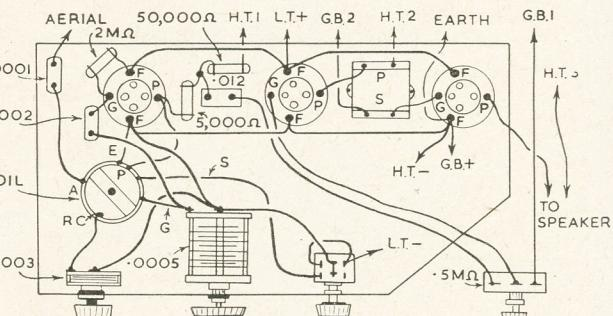
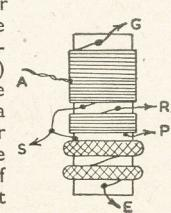

Fig. 2—A complete wiring plan
Fig. 3—The tuning coil windings
For the speaker, a 4½ in. or 5 in. model will be suitable, and a corner is cut off the receiver base-board (Fig. 2) to leave space for this. If a larger speaker is used, the dimensions of the cabinet will require modification,
A complete wiring plan is given in Fig. 2. All the parts should be fixed securely and all connections should be well made with insulated wire. The constructor who has not previously made a receiver and wishes for proper reception from the moment of switching on should follow the diagram carefully and check afterwards to assure all leads are as indicated.
Constructors wishing to wind their own coils should follow Fig. 3. The tube is 1 1/4 ins. in diameter. The ends of the windings are lettered to agree with Fig. 2, and are as follows: (G) to grid condenser; (A) to aerial condenser; (S) to switch; (E) to earth (H.T. negative); (P) to detector plate; (RC) to reaction condenser. All turns must be wound in the same direction.